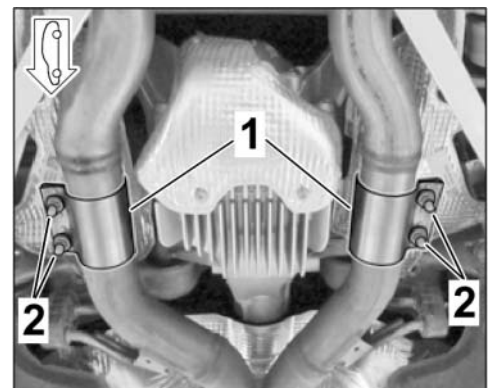

Figure 27
- 3.5.4 Align clamping sleeve Ø 65 x 88 (2 x) on exhaust pipe on front silencer/rear silencer (at the left/right) so that the clamping sleeve is not touching/rubbing at any point (⇒ *Figure 27*).